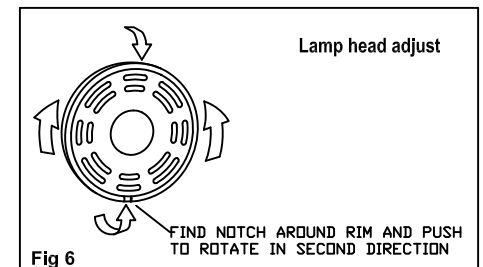

Fig 6
8. Adjust the lamp heads as required (see Fig 6).